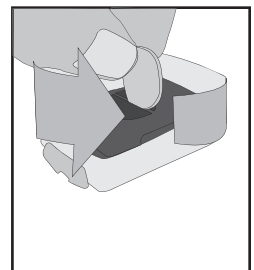

Figure 14- Removing battery cover
3. Insert a large coin into the slot and rotate in a counter-clockwise direction about one-quarter turn (Figure 14).